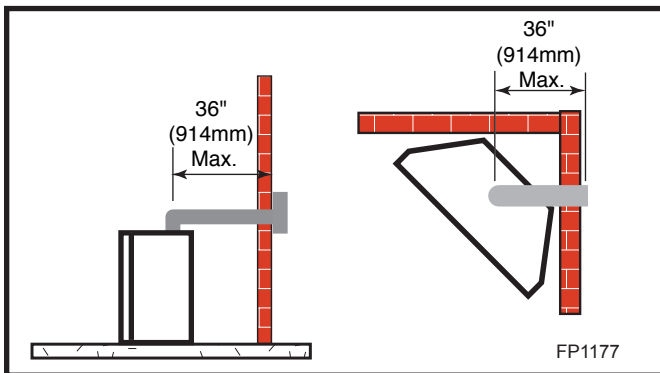

Fig. 27 Maximum horizontal run with no rise.
- If a 90° elbow is fitted directly on top of the fireplace flange the maximum horizontal vent run before the termination or a vertical rise is 36" (914 mm). (Fig. 27)